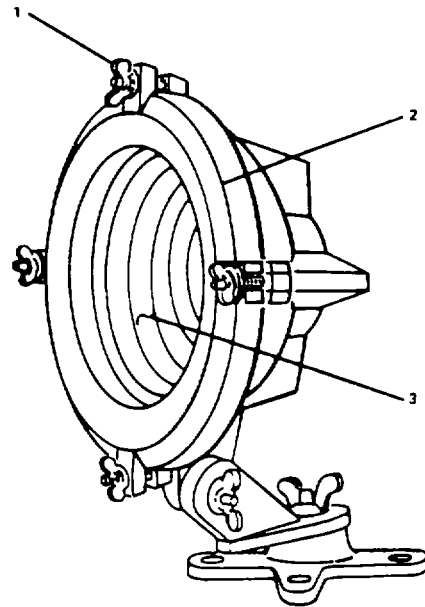

Figure 2-67. Repair Floodlight.
- a. Remove wing nuts (1, Figure 2-67).
- b. Remove lens frame (2).
- c. Remove lamp (3).